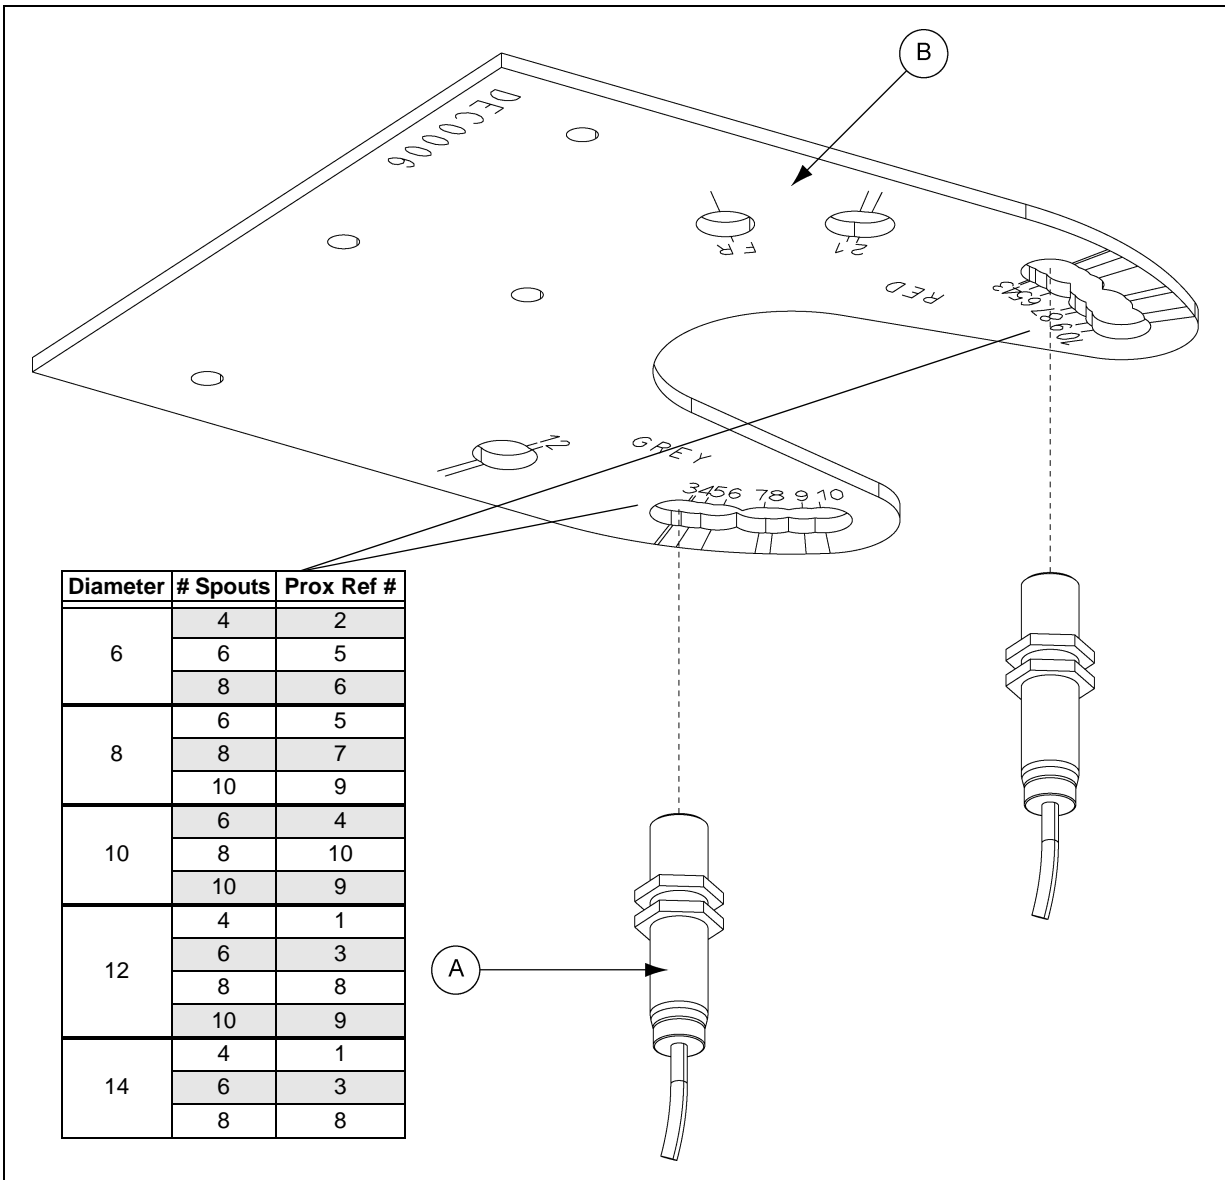

Figure 6D Proximity Sensor Location
**NOTE:** The location of the proximity sensor will be determined by the configuration of the distributor. Using the table shown in Figure 6D, locate the diameter and number of spouts of the distributor being used and note the proximity sensor reference number. This reference number is marked on the bottom of the proximity sensor bracket (DEC0006) (B) and identifies the location for installing the proximity sensors (A).
Install the two (2) proximity sensors (A) into the proximity sensor bracket (B) at the appropriate locations determined from the table. (See Figure 6D below and Figure 6E on Page 46.)